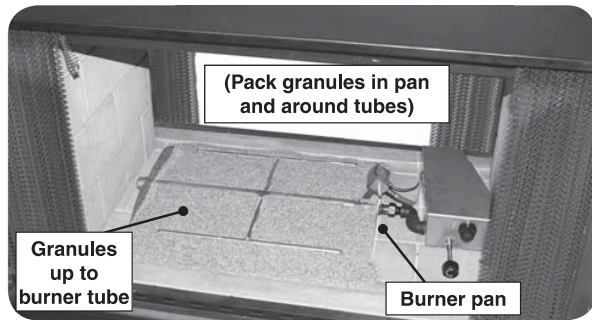

Fig. 9-1
1. Pour the granules into the pan until they just cover the burner tubes. Then pack the granules in the pan and around the burner tubes. Add additional granules as needed to end with the granules **level** with the top of the burner tubes. Slope the granules in the front portions of the pan. See Fig. 9-1 and Fig. 9-3.